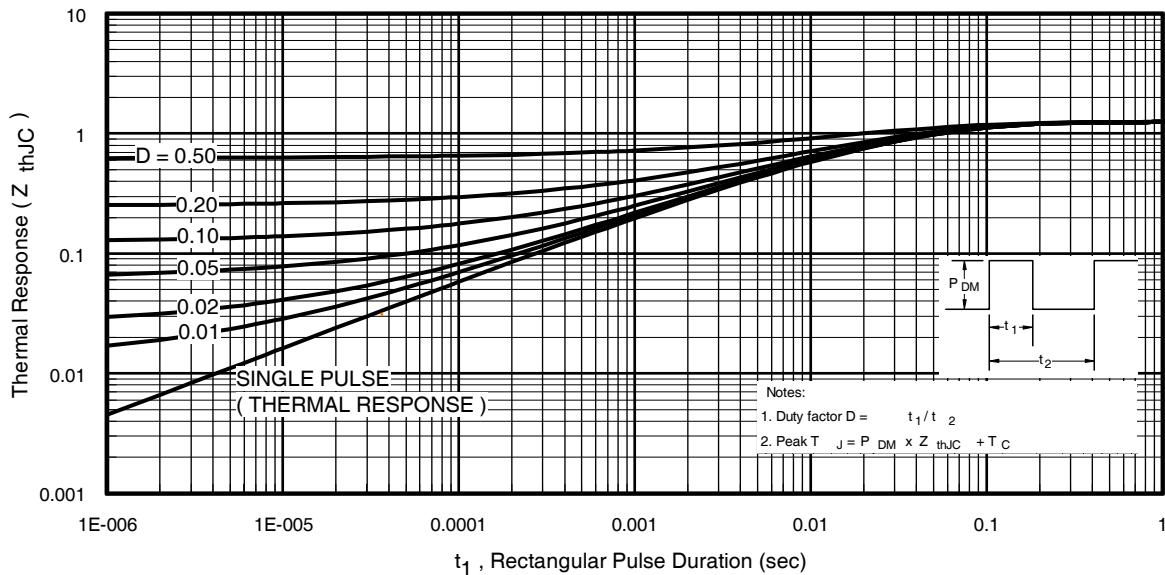

Fig 11. Maximum Effective Transient Thermal Impedance, Junction-to-Case
- ① Repetitive rating; pulse width limited by max. junction temperature. (See fig. 11).
- $Z_{thJC}(D, t_{av})$ = Transient thermal resistance, see figure 11)